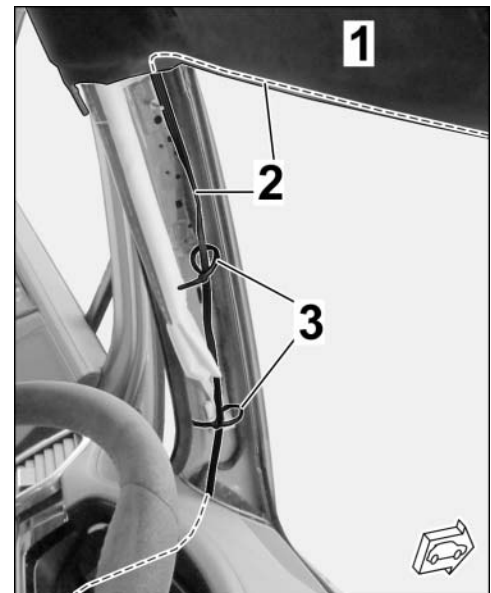

Figure 14
- Roof console → under headliner along windshield frame → left A-pillar (top, if required in the cable duct) → along A-pillar → (⇒ Figure 14) → fuse carrier in footwell (left) → BK 0.5² line → ground pin 13 (MB13)